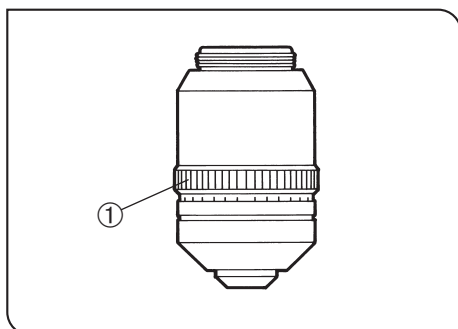

Fig. 48
- If the cover glass thickness is known, set the correction collar ① to that value on the scale. (Fig. 48)
- If the cover glass thickness is unknown, adjust the correction collar ① and tap the FOCUS button alternately until the positioning with the highest contrast is obtained.
- ⊙ Be careful not to touch the correction collar ① when turning the revolving nosepiece.